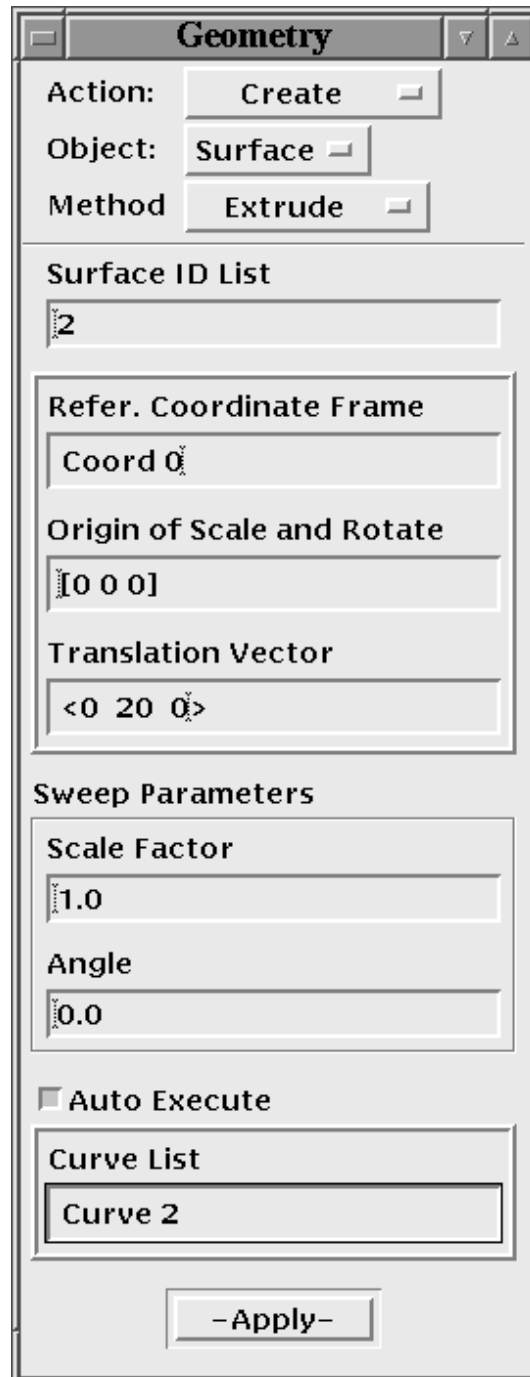

Figure 14: Constructing a Surface Using the Extrude Method
- Leave the 'Action' at 'Create' and the 'Object' at 'Surface'. Change the 'Method' to 'Extrude'. The form should be as shown in **Figure 14**: